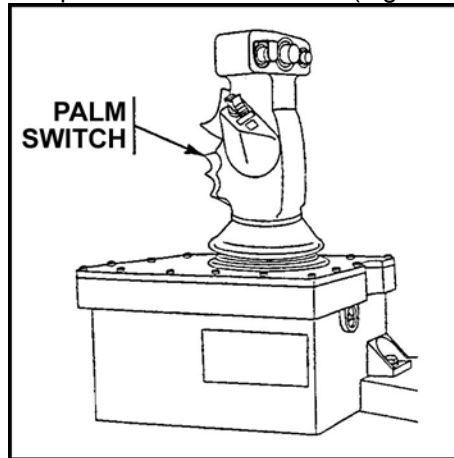

Figure 8. CHS palm switch.
- (1) Move the CIV UNSTOW/STOW switch on the commander's sight control panel (CSCP) to the UNSTOW position.
- (2) Squeeze and hold the palm switch on the CHS (Figure 8).